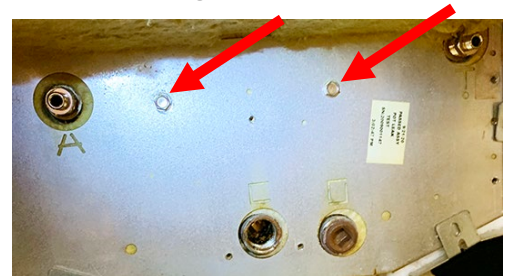

Figure 41
44. Remove the two (2) center screws from the upper insulation retainer cover (see Figure 41).